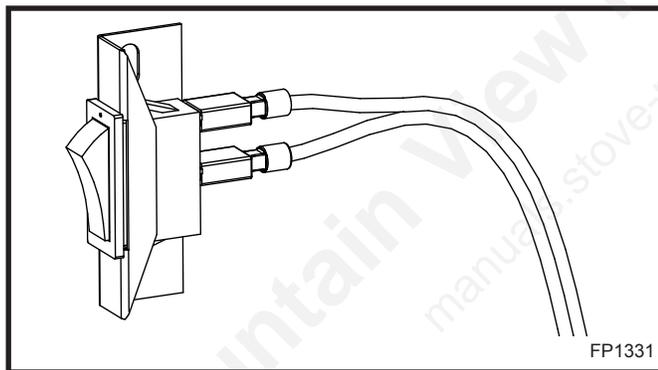

Fig. 8 For left side installation, reverse switch position in bracket.
3. For left side installation, relocate the bracket switch to the left side of the trim kit and repeat Step 2. (Fig. 8)